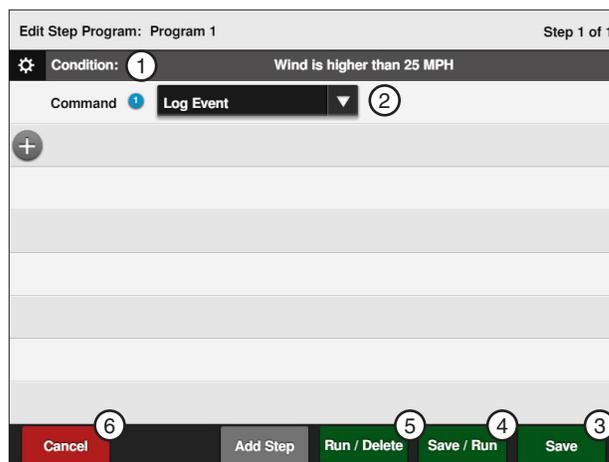

Figure 119-2 1. Wind Condition
4. Enter the command to be executed when wind speed is higher than 25 MPH. Refer to Figure 119-2.
5. Finish the program by selecting one of the following. Refer to Figure 119-2.